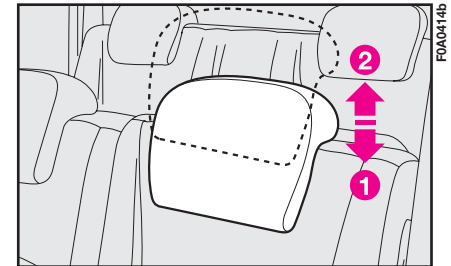
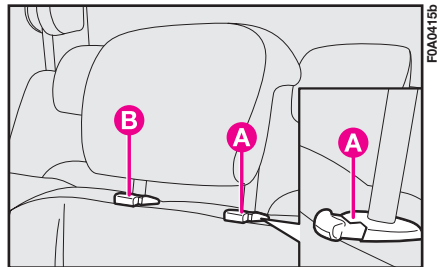

fig. 62a
fig. 62b
Head restraints for rear seats are mobile **fig. 62a**. To use head restraints, raise them from non-use position (1) to use position (2). To set them back to “non-use position” (1), press the outer button **A**-**fig. 62b** and push down the head restraint. Rear head restraints can be removed; to remove them: press buttons **A** and **B** and then raise them to complete removal.